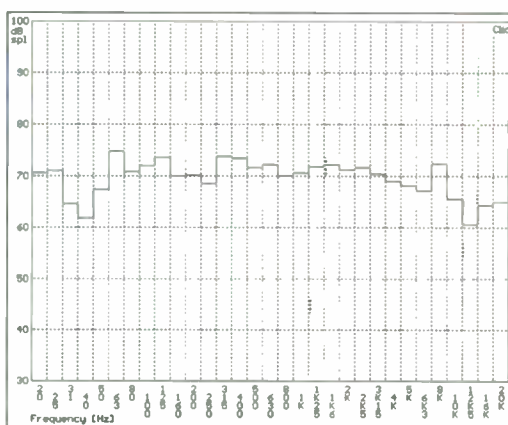

FIGURE 16: In-room RTA response.
In addition to uniform power response, the AR-3a was also designed to be placed against a wall. *Figure 16* shows the 1/3 octave RTA response of the rebuilt AR-3a placed against the middle of the larger wall of a semireverberant listening room. Room modes and floor reflections cause significant response variations below 500Hz, but note that bass response at 20Hz is at the same level as the 1kHz response. This is much better bass response than the anechoic response plot of *Fig. 2* would lead you to believe.
5. Regarding Fig. 16, even though my review was not with the speakers against the wall, the deep bass I heard sounded flat right down to 20Hz. Joe measured the RTA response in my review room (not shown) prior to taking the speakers, and, indeed, the bass response was not even down 2dB at 20Hz.
Figure 16: I consider it a personal kindness that Mr. D'Appolito included this figure. There's some vindication for the chosen bass response alignment here. I've seen better, but I've seen worse, too.